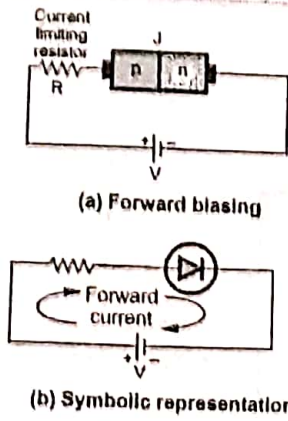

Fig. Q.5.1
- When an external d.c. voltage is connected in such a way that p region is connected to positive and n region to negative of the d.c. voltage then the biasing is called forward biasing. It is shown in the Fig. Q.5.1.